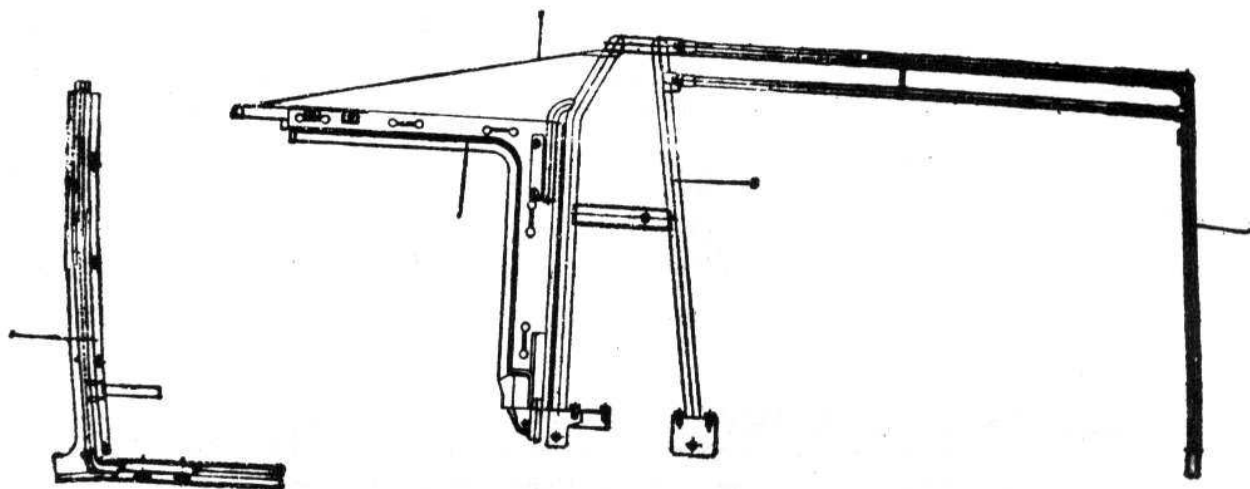

Fig. 4.166. TILT FRAMEWORK ASSY
- Undo the two longitudinal straps (5) and, after that, remove the three backstay tubes. (4).
- Remove front hoop tube, and dump out bar (2) - Fig. 4.166).
- Refitt the framework in reverse order (see Fig. 4.166).